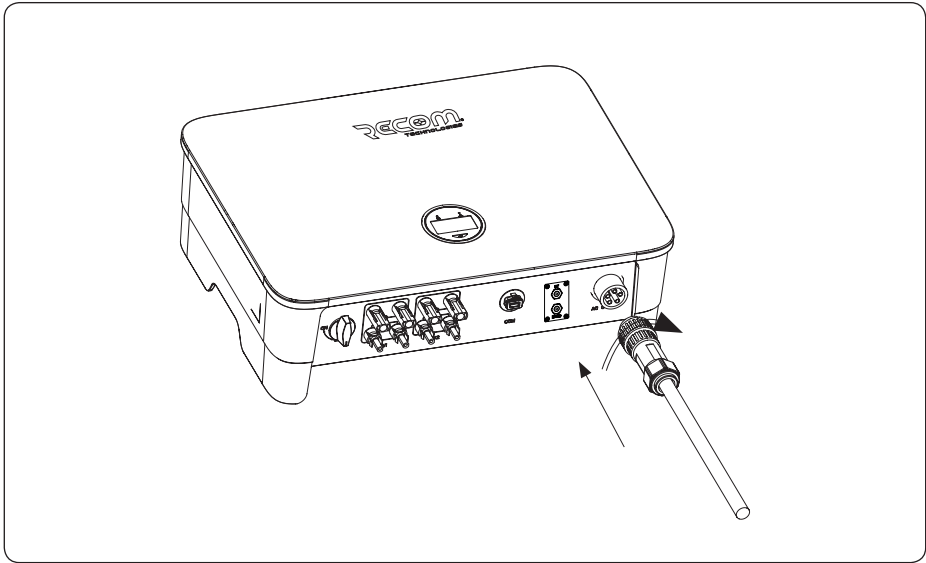

Figure 4-17 Connect the AC connector
5) Connect the AC connector to the inverter AC terminal, and rotate the AC connector buckle clockwise until its tight enough. As shown in figure 4-17: